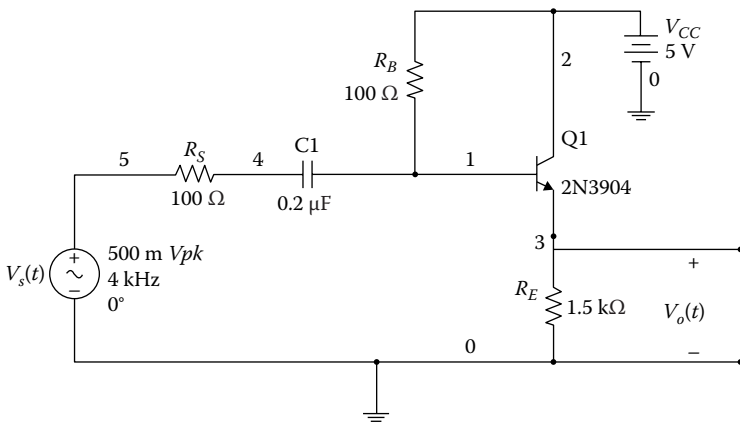

FIGURE P7.10
- Problem 7.10** For the circuit shown in Figure P7.10, use the Analog Discovery board (1) to determine gain at 4 kHz and (2) measure the voltage across the 100Ω resistor and calculate the input resistance.